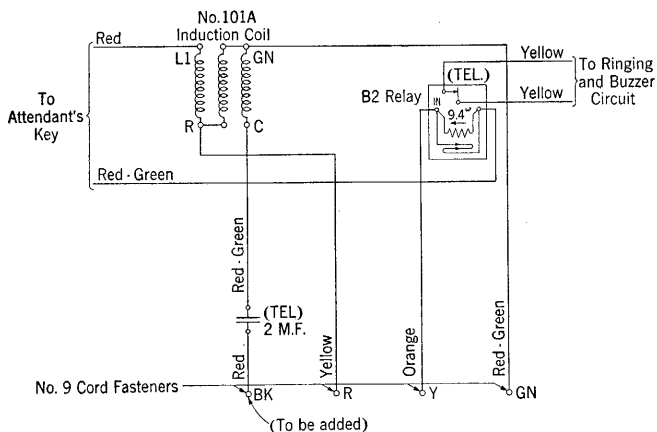

Fig. 1—Wiring of Telephone Circuit for Anti-Sidetone Connections 505 Type P.B.X.'s. (For Boards Where (BK) Cord Fastener Has to Be Added.)
Two Feet of No. 22 D.S.C.C. Single Orange Wire (For Figs. 1, 2 and 3)
3.11 Connect the wiring to the induction coil, relay, condenser and cord fasteners in accordance with Fig. 1 or 2.
- 4.02 Inspect all wiring and check to see that the connections have been made in accordance with either Fig. 1, 2 or 3.